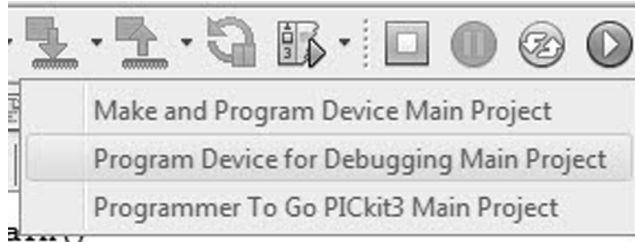

Figure 3.15: Load the Target Microcontroller.
- Load the target microcontroller by clicking *Program Device for Debugging Main Project* (Figure 3.15).